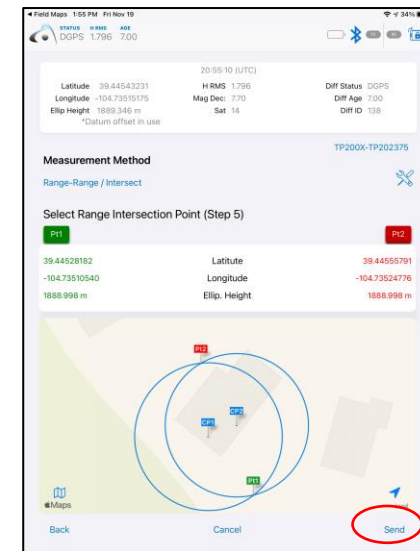

Figure 16A
- 16A. Tap the **Send** button (Figure 16A) to transfer the offset location back to Field Maps